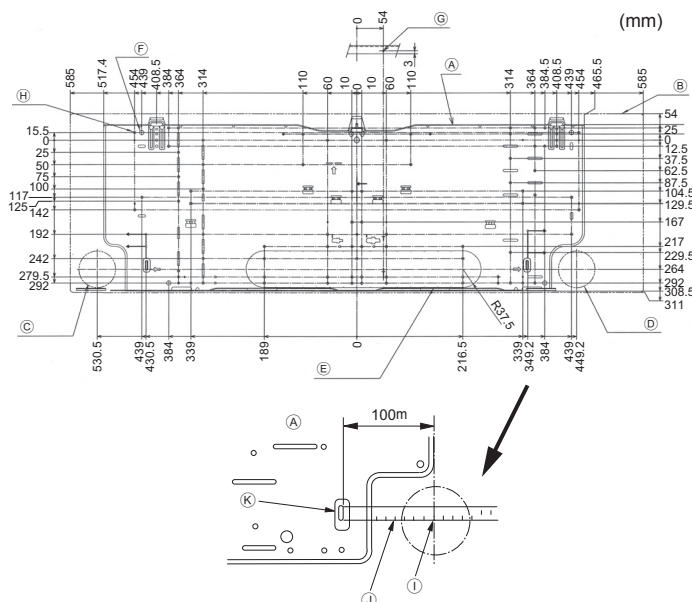

Fig. 3-2
①	Mount board	1	Fix at the back of the unit
②	Tapping screw 4 × 25	7
③	Felt tape	2
④	L-shaped connection pipe	1
⑤	Charge nut	1
⑥	Wireless remote controller	1
⑦	Remote controller holder	1
⑧	Alkali batteries (size AAA)	2
⑨	Tapping screw 3.5 × 16	2
⑩	Spacer	1	Make use of packaging material
3.2. Installing the wall mounting fixture (Fig. 3-2)